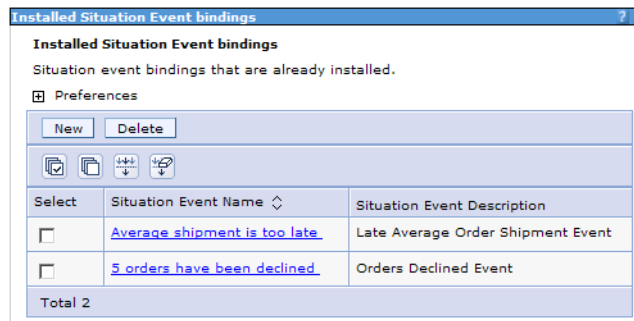

Figure 12-20 Situation event binding list
- ▶ Define the second alert binding in the same way. The two bindings are shown in Figure 12-20.